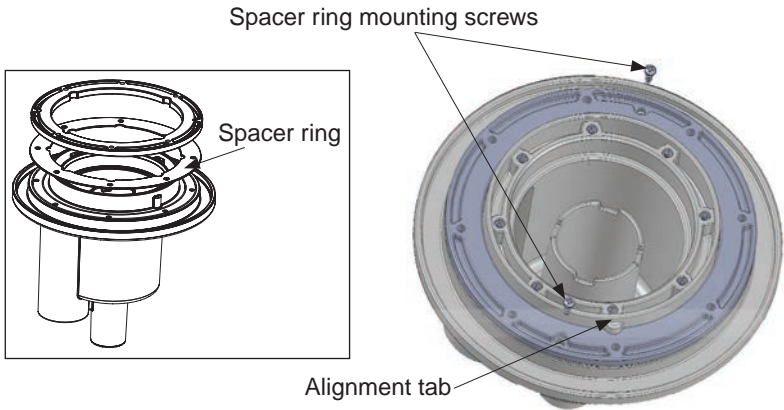

**Figure 3.**
7. Install the face ring, aligning the screw holes. Secure the face ring with the eight (8) #8-18 x 1" self-tapping screws (provided), see Figure 3. Using a No. 2 Philips head screwdriver, tighten each retaining screw to a **torque value of 10.00 (minimum) to 15.0 (maximum) in-lbs** to secure the face ring and gaskets on the niche. **DO NOT OVER TIGHTEN THE SCREWS. DO NOT ASSEMBLE WITH POWER TOOLS.** Over tightening or using a motorized screwdriver on the sealing ring screws can over torque the screw threads and damage the niche housing and/or fiberglass seal.
3. Place the vinyl spacer on the niche aligning the screw holes, Note: there is only one correct orientation of the spacer where all screw holes are aligned with the niche. Fasten with the two (2) #8-18 x 1/2" self-tapping screws (provided), see Figure 3 on page 8. Using a No. 2 Philips head screwdriver, tighten each retaining screw to a **torque value of 10.00 (minimum) to 15.0 (maximum) in-lbs** to secure the face ring and gaskets on the sump. **DO NOT OVER TIGHTEN THE SCREWS. DO NOT ASSEMBLE WITH POWER TOOLS.** Note: Over tightening or using a motorized screwdriver on the gunite cover can over torque the screw threads and damage the niche housing and/or vinyl spacer ring.
8. Secure the face ring to the niche with the eight (8) #8-18 x 1" self-tapping screws (provided), see Figure 3 on page 6. Using a No. 2 Philips head screwdriver, tighten each retaining screw to a **torque value of 10.00 (minimum) to 15.0 (maximum) in-lbs** to secure the face ring and gaskets on the niche. **DO NOT OVER TIGHTEN THE SCREWS. DO NOT USE A POWER TOOL TO SECURE THE SCREWS.** Over tightening or using a motorized screwdriver on the sealing ring screws can over torque the screw threads and damage the niche housing and/or vinyl liner seal.